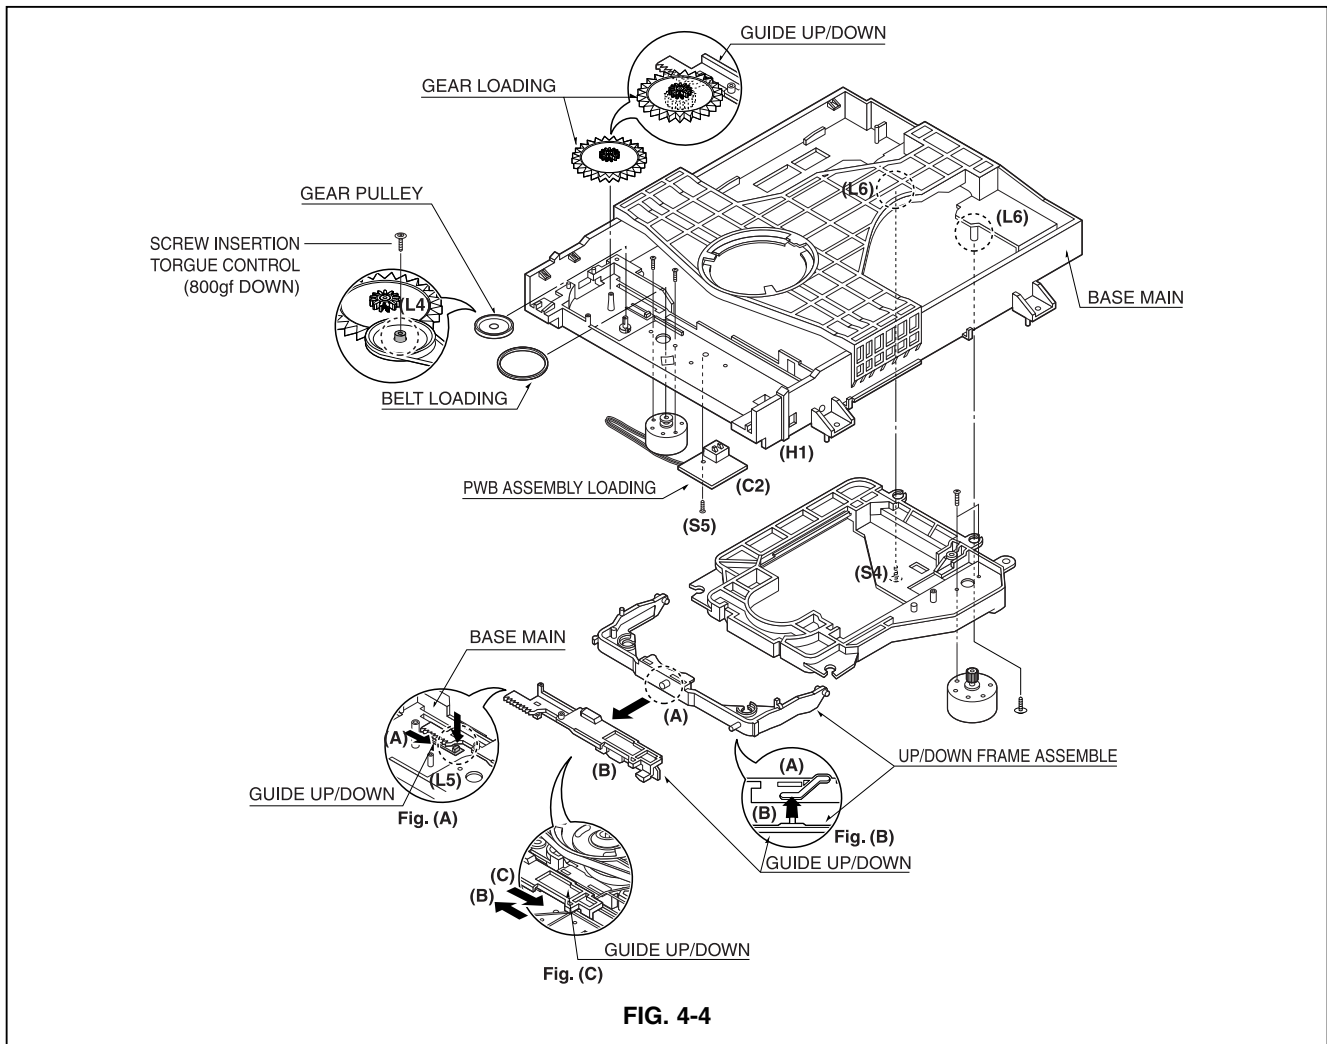

FIG. 4-4
5. FRAME ASSEMBLY UP/DOWN (FIG. 4-4)
- When reassembling move the Guide Up/Down in direction of arrow(C) until it is positioned as Fig.(C).
- When reassembling insert (A) portion of the Frame Assembly Up/Down in the (B) portion of the Guide Up/Down as Fig.(B)
6. BELT LOADING(FIG. 4-4)
7. GEAR PULLEY (FIG. 4-4)
- 1) Unlock the Locking Tab(L4) in direction of arrow(B) and then separate the Gear Pulley from the Base Main
8. GEAR LOADING (FIG. 4-4)
9. GUIDE UP/DOWN (FIG. 4-4)
10. PWB ASSEMBLY LOADING (FIG. 4-4)
11. BASE MAIN (FIG. 4-4)